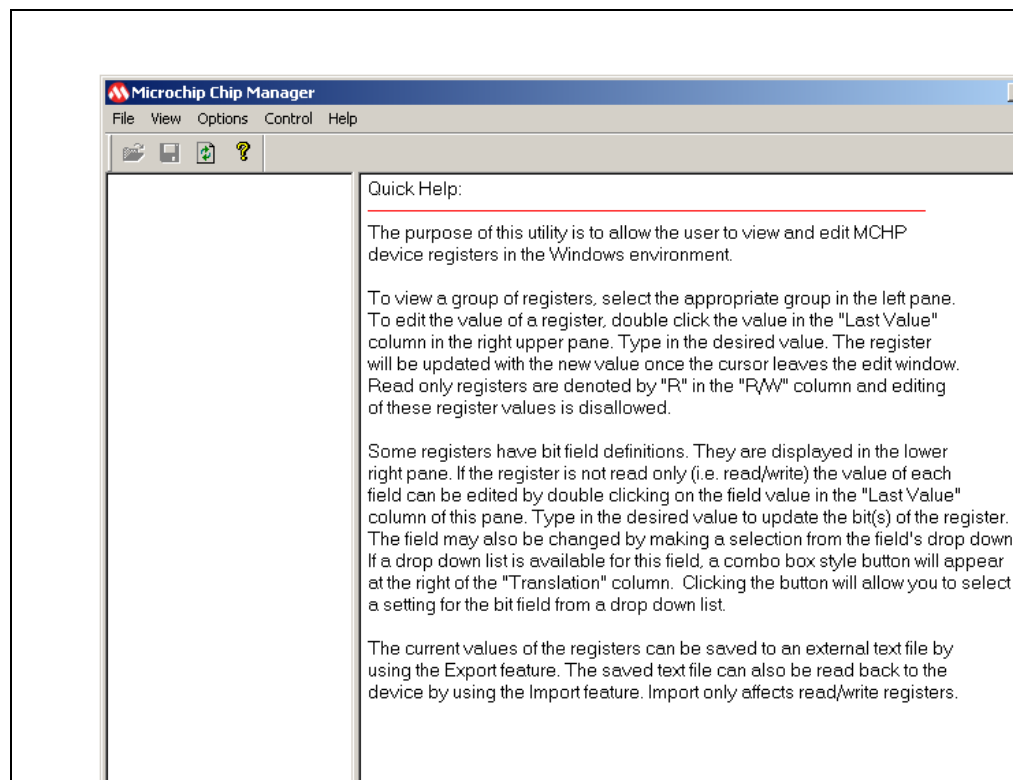

FIGURE 2-9: *Microchip Chip Manager – Quick Help Window.*
12. Start the software by either going to Windows *Start button > All Programs > Microchip > Microchip Chip Manager* or by clicking the software icon () on the desktop. The evaluation board software will initialize while the Microchip Chip Manager with the Quick Help screen appears (see Figure 2-9).